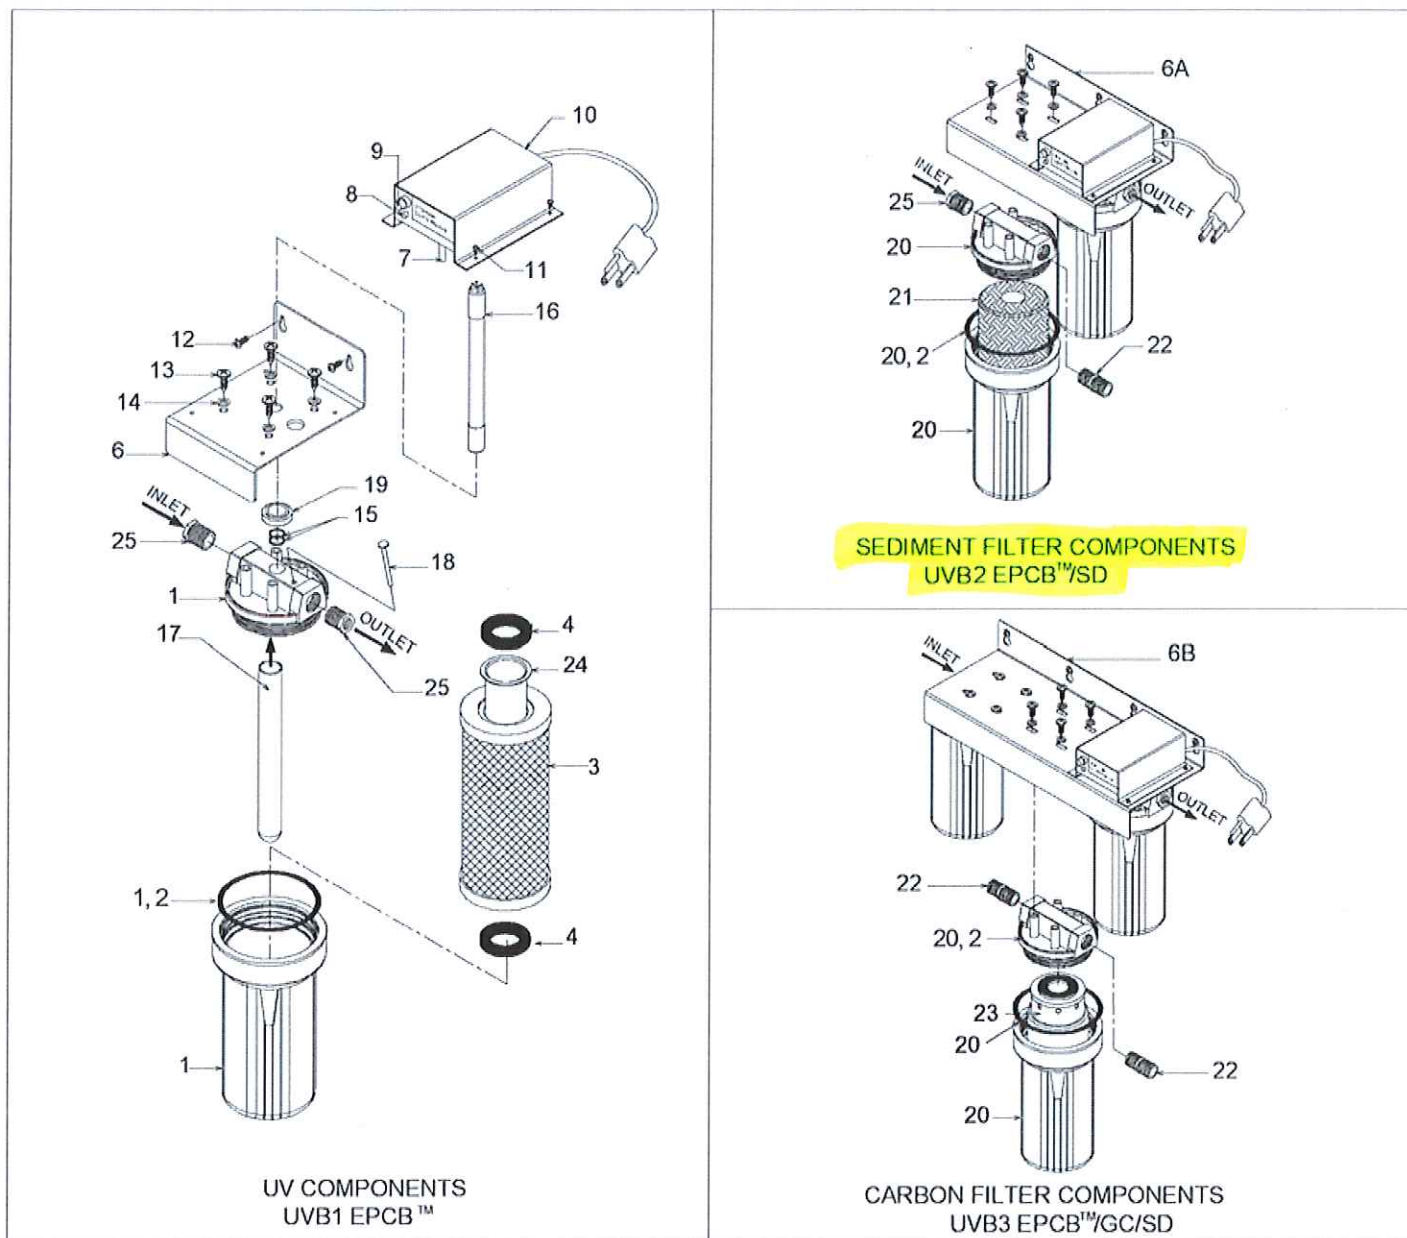

Figure 1 Exploded Schematic, PURA UVB Series
Figure 1 located under kitchen countertop beside large drawer
NOTE: All Items refer to Figure 1.
2. Install EPCB™ Sleeve (Item 24) into EPCB™ Carbon Filter (Item 3) as shown in Figure 1.
3. Insert filter/sleeve assembly into sump as shown in Figure 1 with both Filter Gaskets (Item 4) in place.
5. **For UVB2 & UVB3 Models only:** Remove Sump (Item 1) from Filter Head (Item 20). Install Filters (Items 21 and 23) as shown in Figure 1. Install sump onto filter head.
CAUTION: Verify that inlet and outlet ports are connected to appropriate inlet/outlet pipes (see Figure 1).